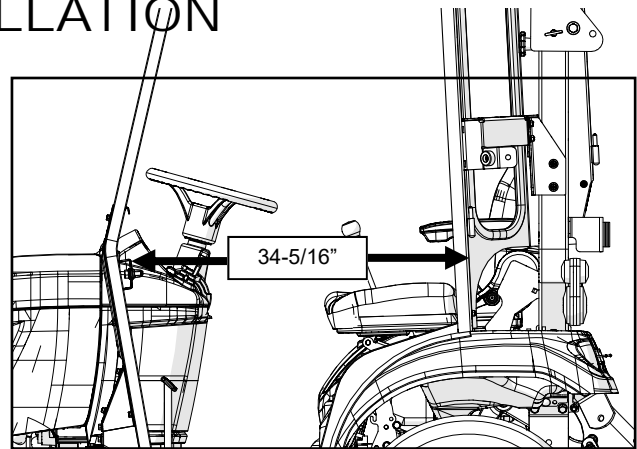

Fig. 14.1 (Measure A-Pillars to Rear Legs)
- 14.1** Measure the distance from the striker bracket to the back face of the rear legs as shown in figure 14.1. Adjust the A-pillars, contours, rear legs, and ROPS brackets to get as close to 34-5/16" as possible. Tighten the hardware securing the A-pillars and the bottom of the contours to the A-pillars.